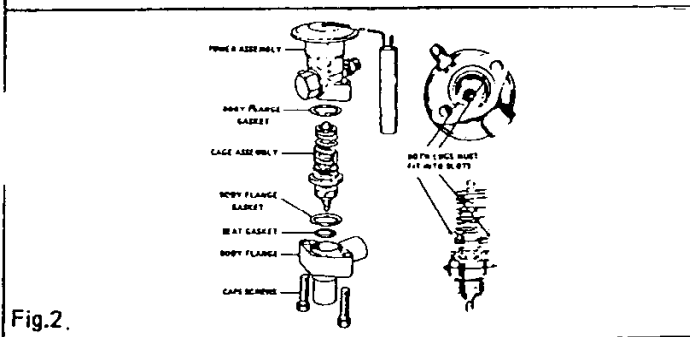

Fig. 2.
6. When putting the power assembly on make sure the cage assembly lugs line up with the slots inside the power assembly (See Fig. 2).